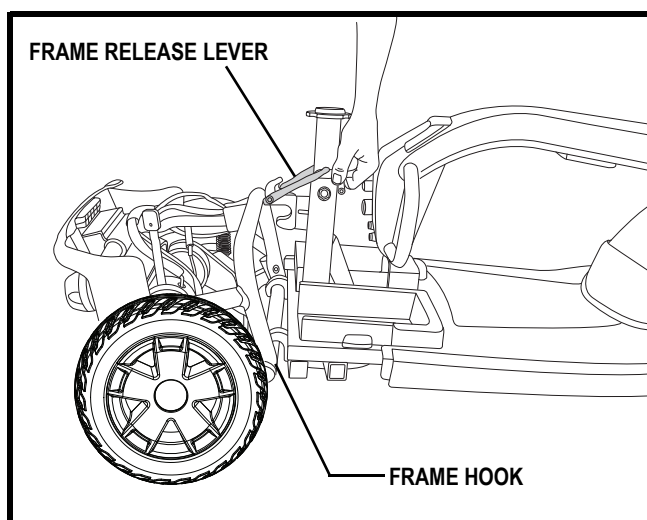

Figure 24. Frame Release
1. Lift up on the frame release lever. See figure 24.
2. Lift the front section up until the frame hooks of the front section separate from the rear section. See figure 24.
1. Position the front and rear sections of your scooter as shown in figure 24.
2. Use the frame release lever to lift the front section as you align the frame hooks of the front section with the lower frame tube of the rear section. See figure 24.